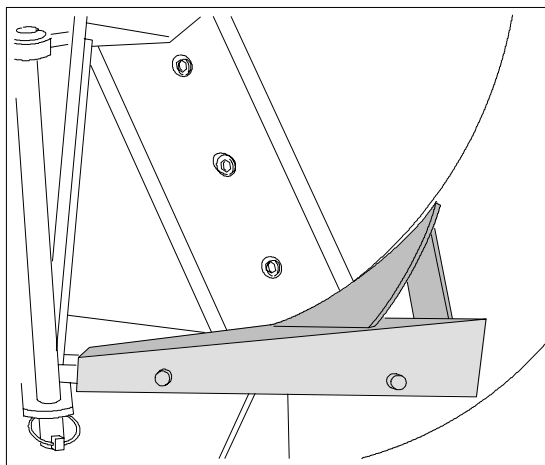

Fig 4. Installing the fitting block..
- The hydraulic feeder and mechanical feeders include fitting blocks that are installed between the chipper and feeder. The fitting blocks are installed so that the two guide pins located at the bottom section of the feed opening go through the holes in the fitting block and secure the block. See Fig. 4.